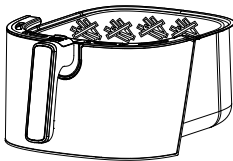

Fig.5
3. Put the ingredients in the basket. (Fig.5)